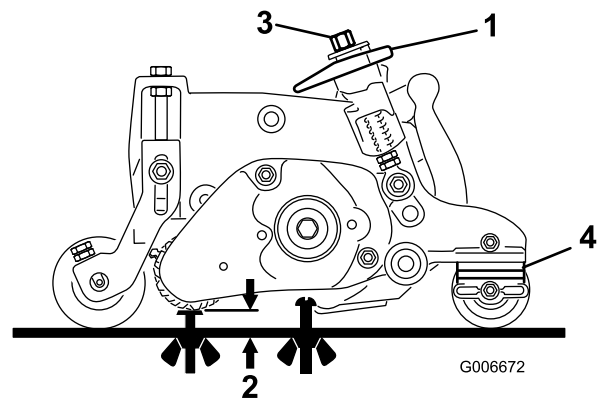

Figure 42
3. Rotate the quick-up levers (Figure 42) to the Engaged Position (handle points toward the front of the cutting unit. Use **Height of Cut (HOC)** and **Height of Groom (HOG)** recommended range chart for setting the gauge bar.
4. On one end of the groomer reel, measure the distance from the lowest tip of the groomer blade to the working surface (Figure 42). Turn height adjuster knob (Figure 42) to raise or lower the groomer blade tip to the desired height.